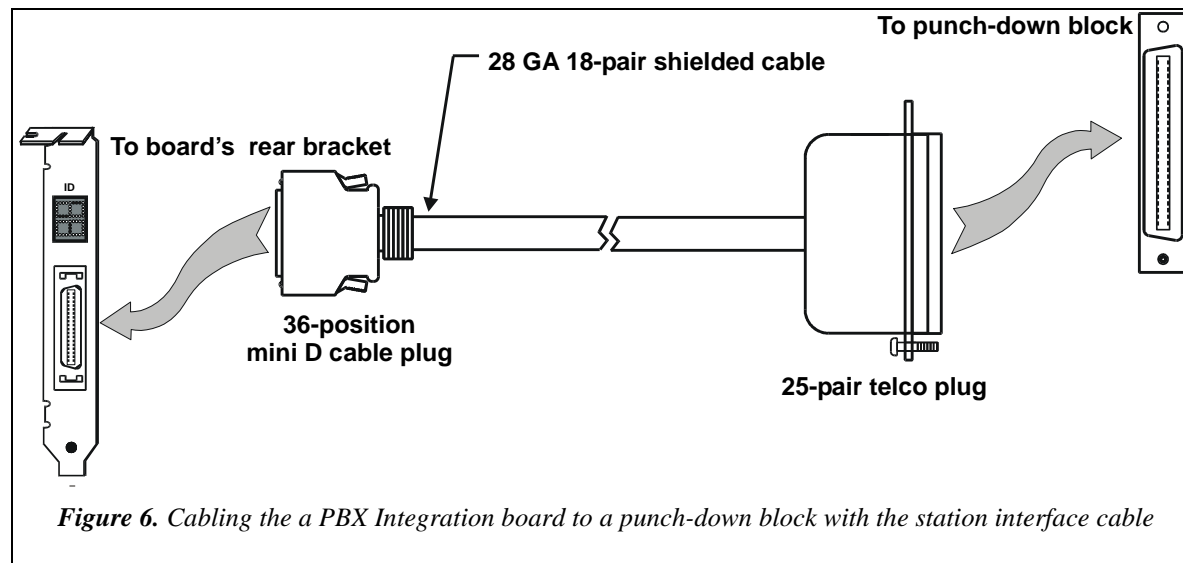

Figure 6. Cabling the a PBX Integration board to a punch-down block with the station interface cable
- A PBX Integration-specific, station interface cable (available as a separate sales item, part number 86-0155-001) is used to connect a D/42JCT-U or D/82JCT-U board to a punch-down block (see *Figure 6*).